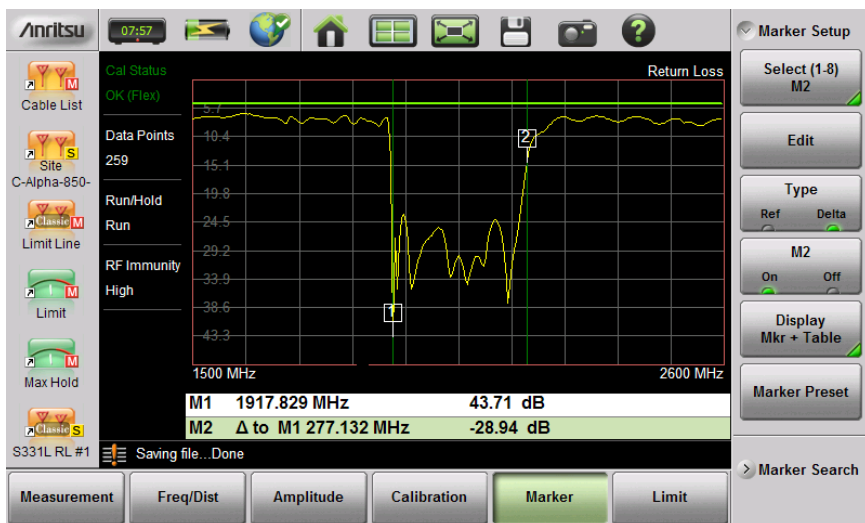

Figure 3-30. Delta Marker 2 and Marker Table
3. Markers 2 through 8 can be set as deltas to a reference marker. Use the Type key to set the marker type as Reference or Delta marker. Figure 3-30 on page 3-39 illustrates using a delta marker to estimate the passband of a filter.